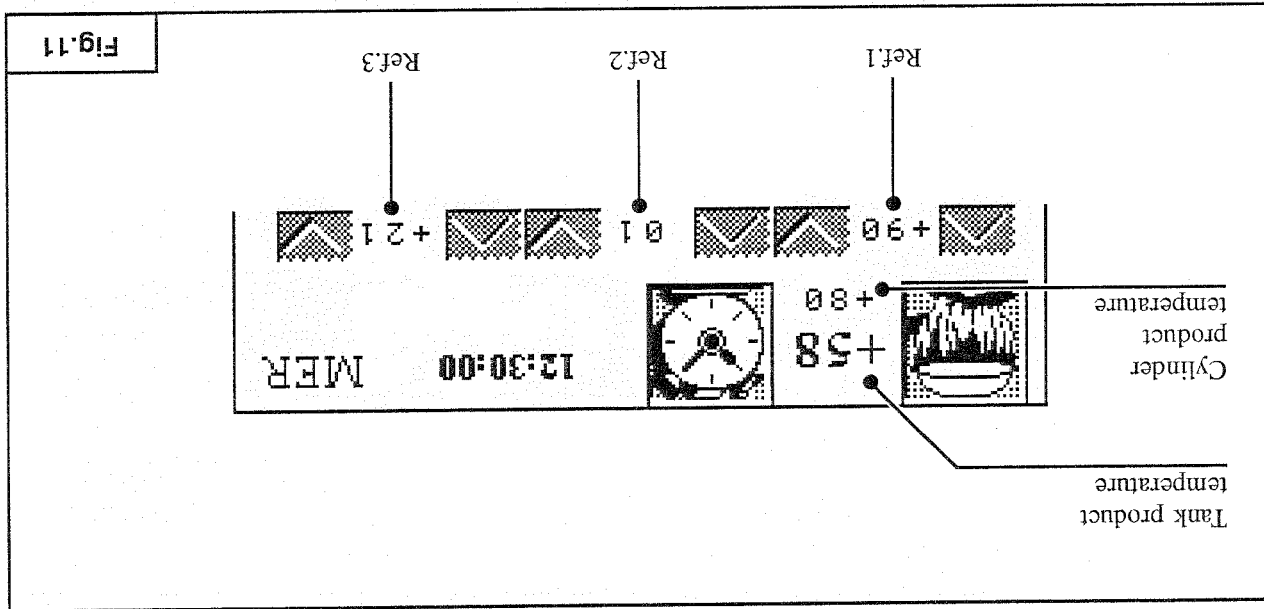

Fig.11
- Heating temperature can be set 50°C to 105°C through button  and  (Ref.1-Fig.11).
- Pause time can be set 0 to 99 minutes through button  and  (Ref.2-Fig.11).
- Cooling temperature can be set +10°C to +40°C through button  and  (Ref.3-Fig.11).
Product is heated up to reach the temperature set (Ref.1-Fig.11), and when heating cycle is complete, the monitor displays what picture 12 shows.
When pause time ends, product is cooled down to temperature set (Ref.3-Fig.11 or Ref.1-Fig.13); before reaching final temperature, cooling temperature can be further modified by operator (Ref.1-Fig.13) through